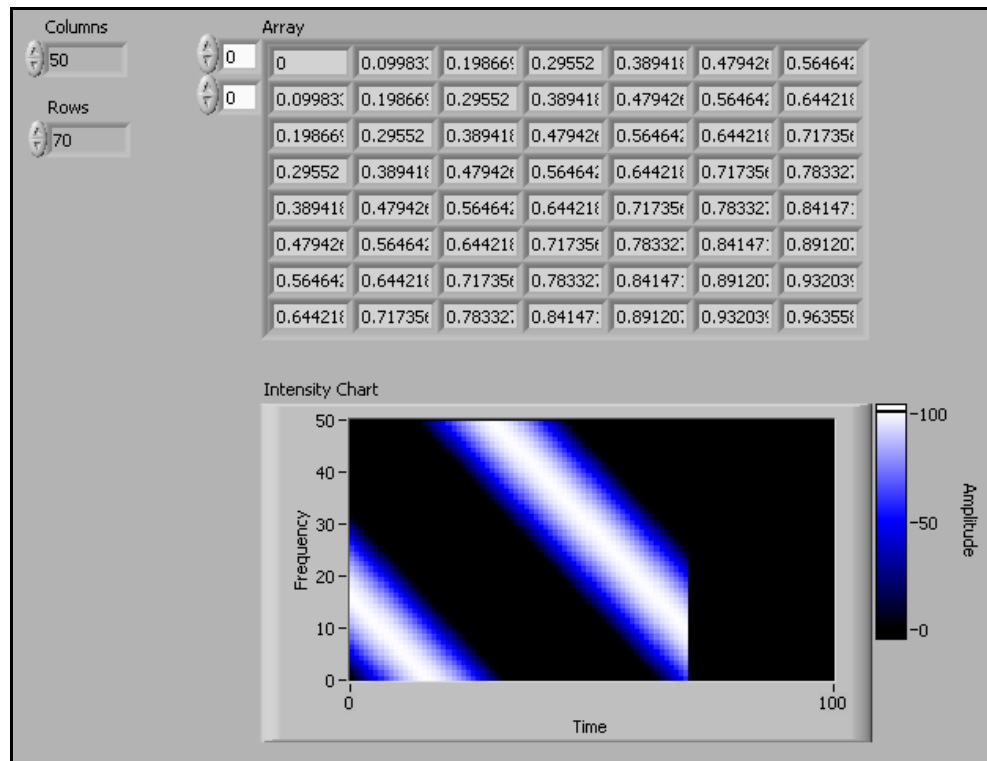

Figure 4-10. Array Investigation Part 1 VI Front Panel
3. Place an intensity chart on the front panel of the VI, as shown in Figure 4-10.